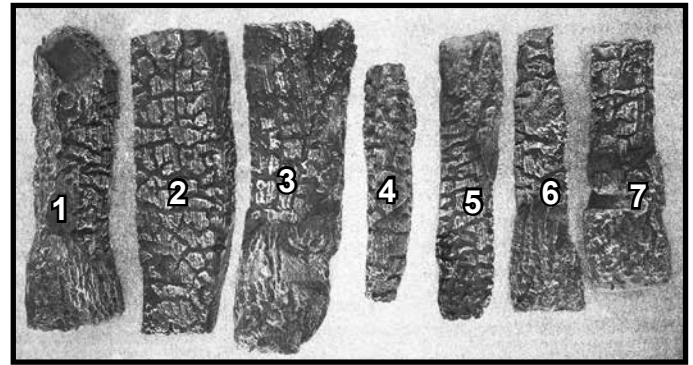

Figure 11. Log Identification - EXCURSION-II, TRILLIANT30IN
**NOTICE:** To simplify the installation process, use Figure 11 to positively identify each individual log before beginning installation.